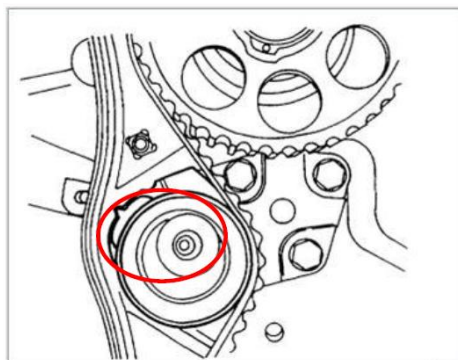

Fig. 9
- Bring tensioner point in line with the pointer on the tensioner back plate by rotating the water pump anticlockwise, with special adjustment tool (Fig 9).